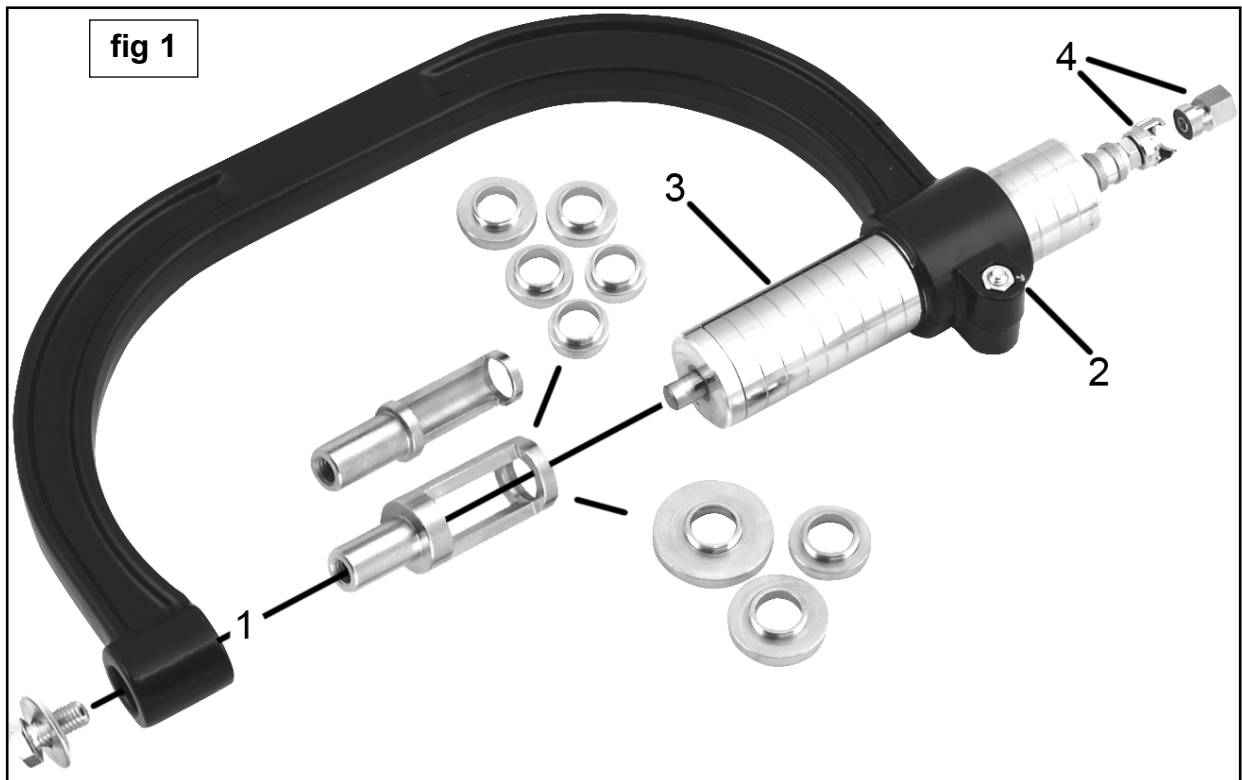

fig 2
- 4.1.3 Place the valve remover and bush onto the valve spring seat and then open the air control by pushing the sleeve forward, towards the cylinder (fig 2).